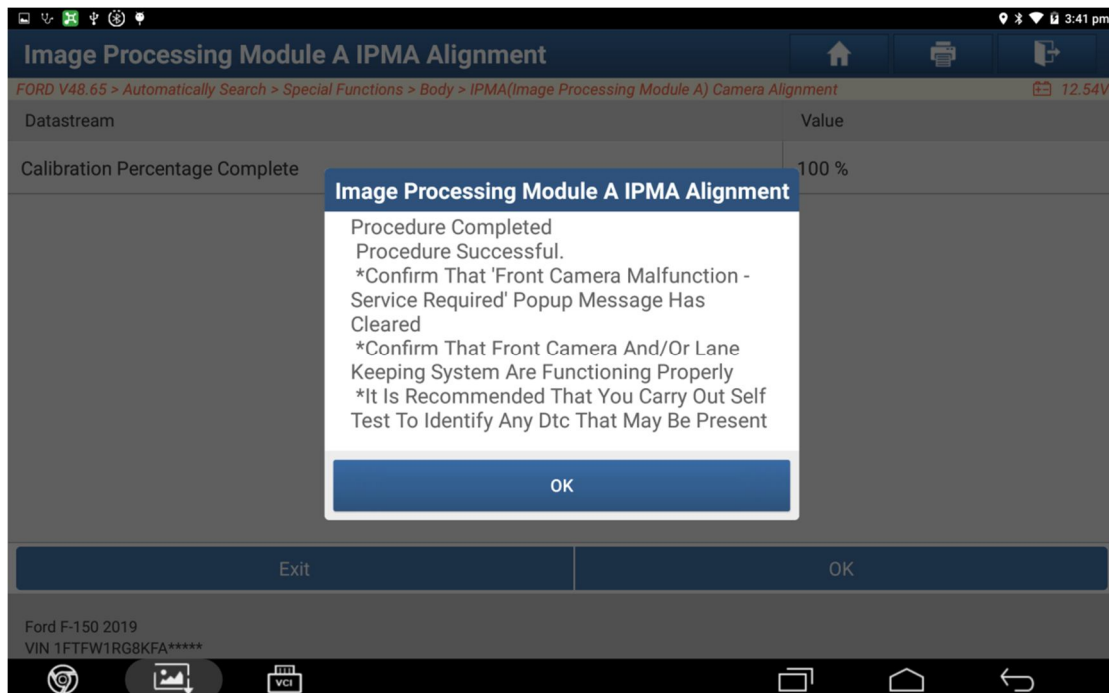

Figure 19
17. The function operation is successful (Figure 19).